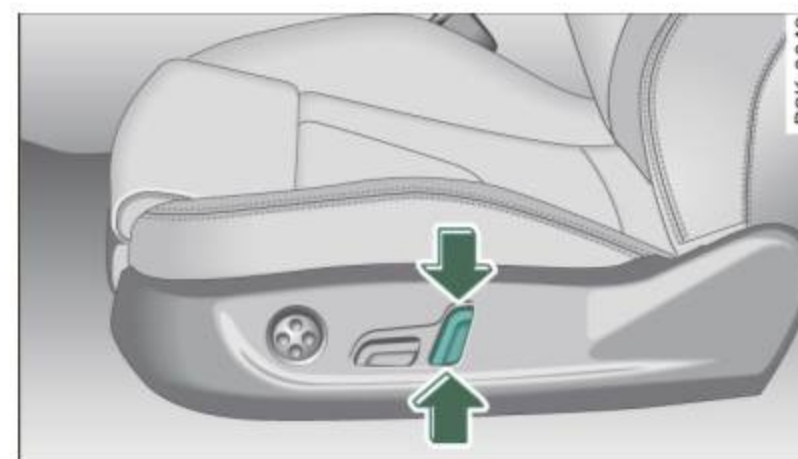

Fig. 74 Front seat: Adjusting head restraint electrically* ▶
- Push the switch up or down ⇒ *page 80*, fig. 74 to adjust the height of the head restraint.